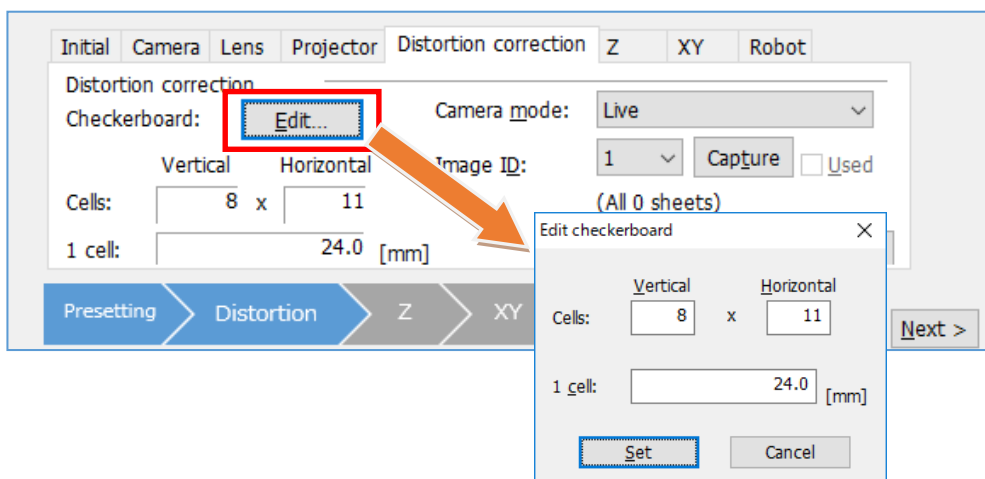

Fig. 7-55 Checkerboard settings
- When the evaluation value of distortion correction is low, increase the number of images used. Photograph the installed checkerboard from various angles (camera optical axes) (refer to Fig. 7-55). In addition, the target evaluation value of distortion correction should be 90 or more.